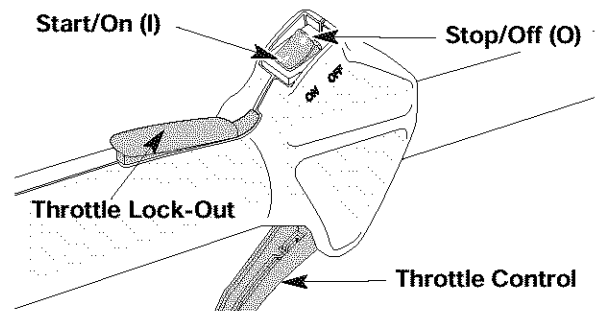

Fig. 6
2. Make sure the On/Off Stop Control is in the **ON (I)** position (Fig. 6).
2. Put the On/Off Stop Control in the **OFF (O)** position (Fig. 6).